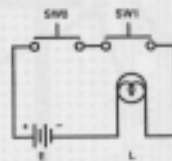

Fig. 7, Electrical Circuit Comparison
**Procedure - Refer to Figures 7, 8 and 9 for the following instructions.**